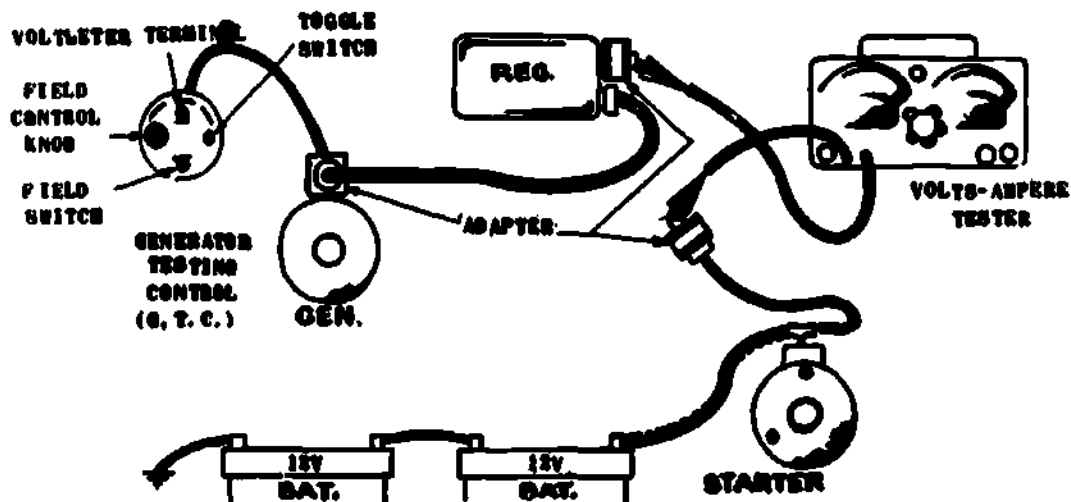

Fig 1-15. Charging circuit test connection preparations.
Step 1. With the engine stopped and all electrical loads switched off, disconnect the battery lead from the regulator and install adapter as shown (fig 1-15).